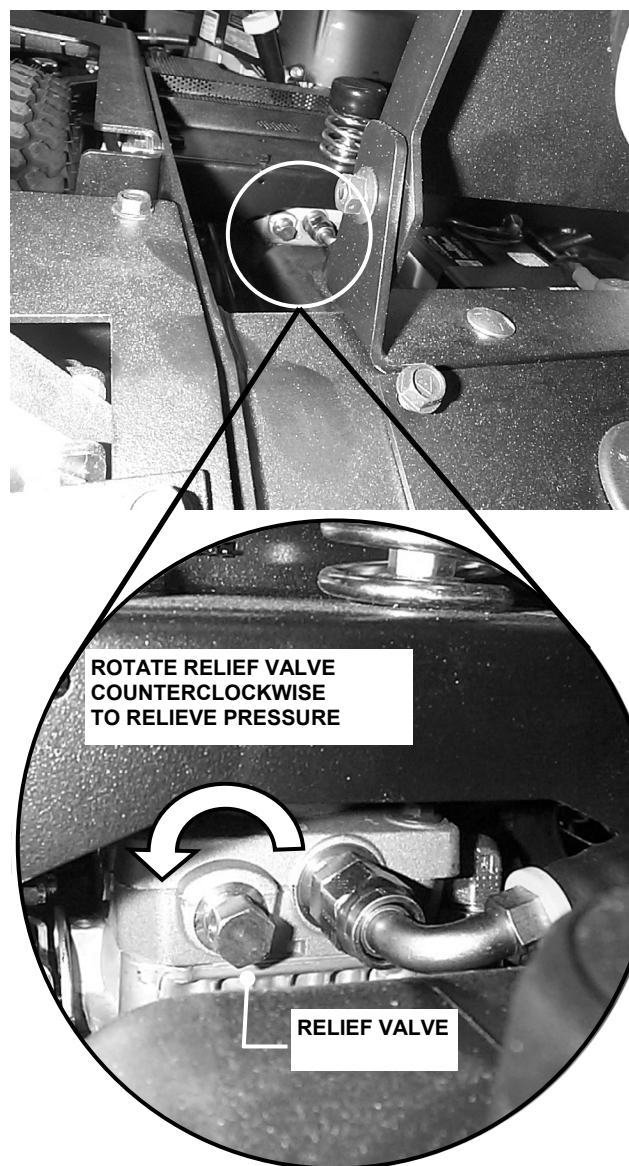

FIGURE 6
B. Open pressure relief valve on hydraulic pump, turning counter clockwise 2 full turns. See Figure 6.